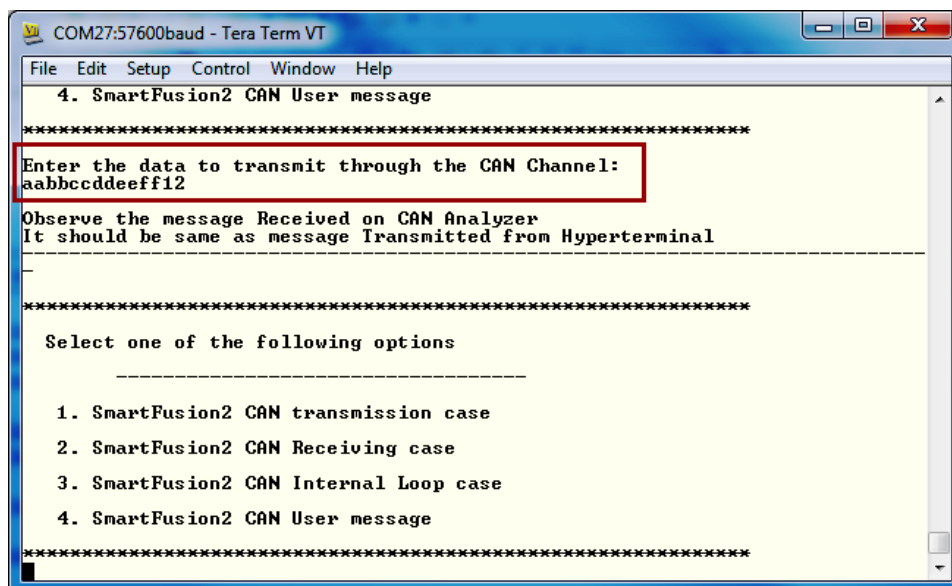
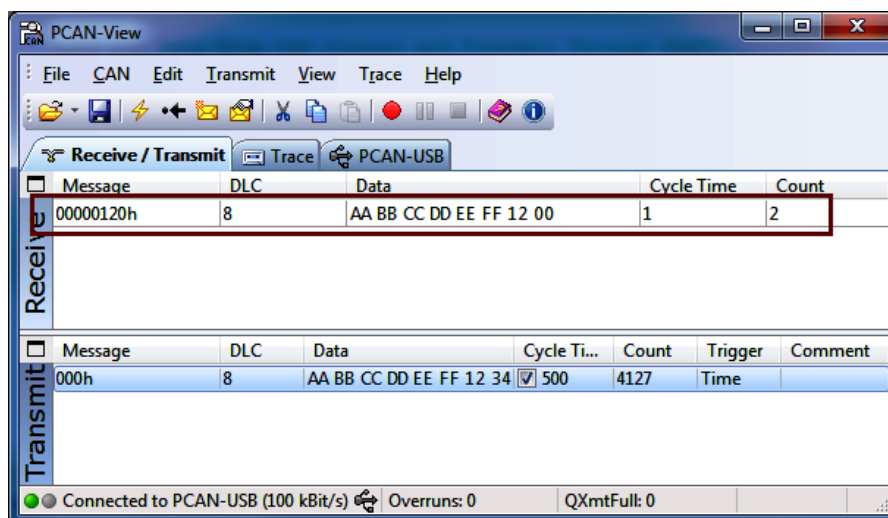

Figure 38 • Enter Data to Transmit to CAN Bus
Figure 39 • PCAN-View Received Data
- Press **ENTER**. The sent message is reflected in the **PCAN-View** window as shown in Figure 38 and Figure 39.